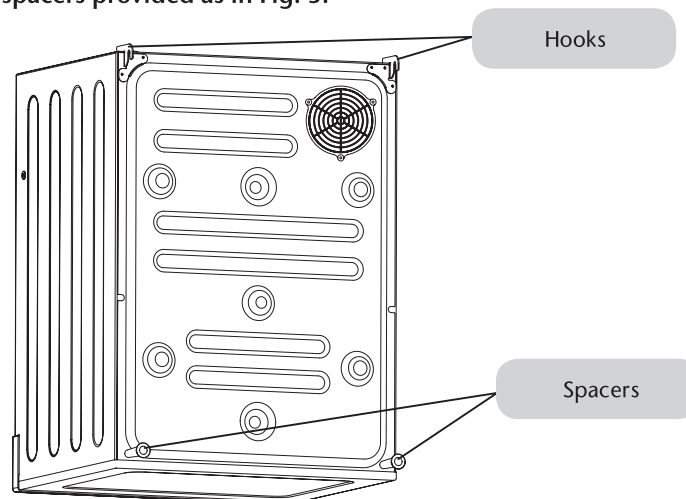

FIG. 3.
4. Align the hooks as shown in Fig. 3. and refit screws tightly. Install the spacers provided as in Fig. 3.